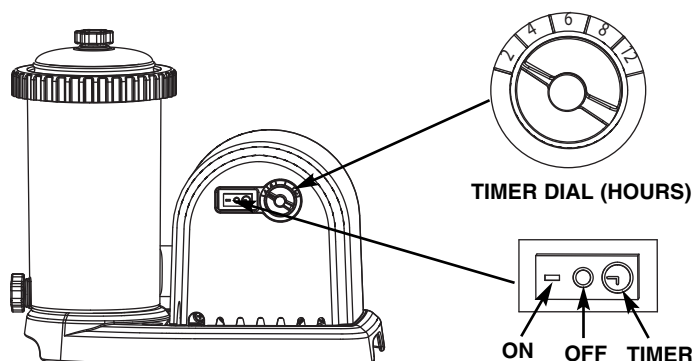

FIG 10
4. With water flowing into filter pump, the water pressure will allow the air trapped inside to escape from the air release valve (2). When all the air has escaped water will flow out of the valve (2). When this occurs gently finger tighten the valve (2) in a clockwise direction.
- A. Set the timer dial to the desired operating hours. See operation time table. See Fig. 10